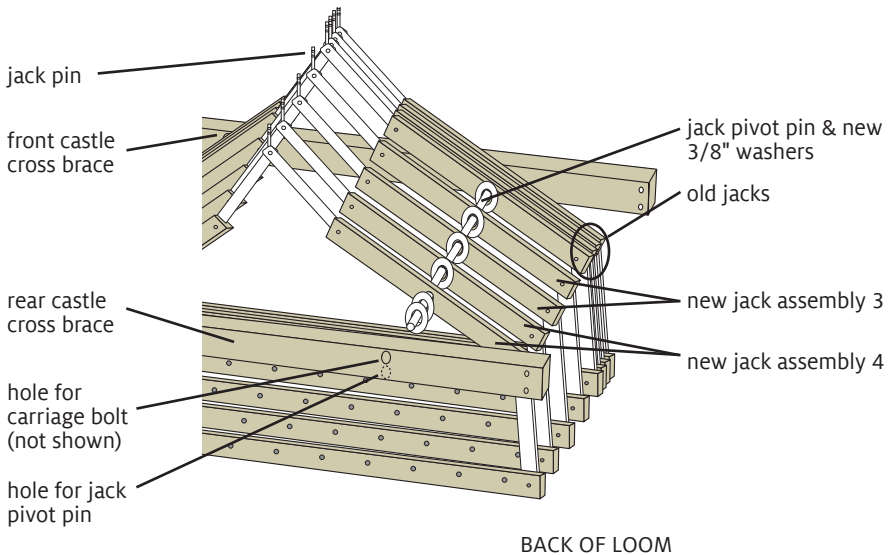

FIGURE 2: JACK ASSEMBLIES
4. Place a 3/8" washer on each jack pivot pin, then place a jack assembly labeled "3" onto the jack pivot pins (Figure 2).
5. Repeat Step 4 for the remaining "3" jack assembly, then for both "4" jack assemblies (Figure 2). After installing all the new jack assemblies, place two 3/8" washers on each jack pivot pin.